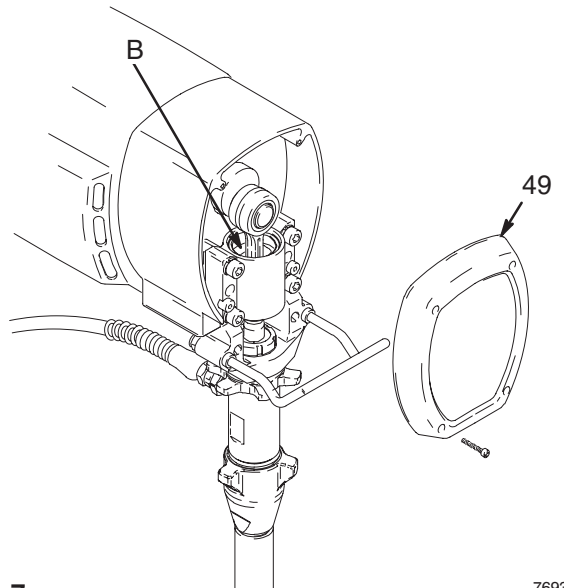

Fig. 7
3. Lubricate bearing housing after every 100 hours of operation. First relieve pressure. Remove front cover (49). Fill bearing housing cavity (B) with SAE 10 non-detergent oil. See Fig. 7.